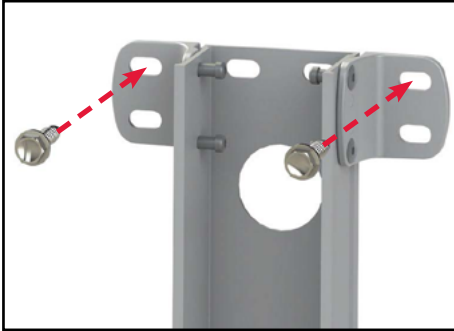
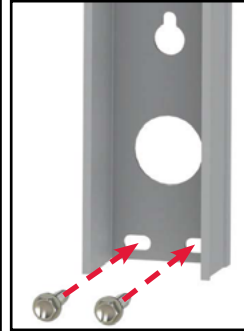

Figure 5
Figure 6
- Lift the support arm assembly up and secure by setting the awning assembly to the desired height and attaching it to the side of the unit with two #14 x 1 1/4" screws at the top (Fig. 5) and two #14 x 1 1/4" screws at the bottom (Fig. 6).